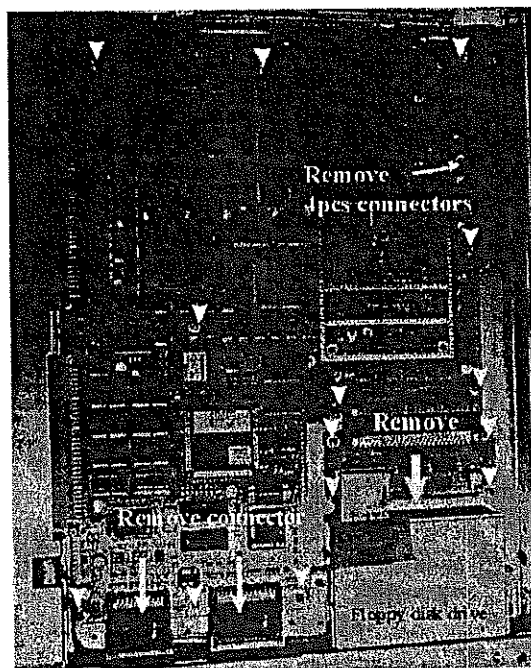

Figure 5-16 Location of Connectors and Screws
3. Remove 4pcs of RF connectors, 2pcs of flat cables and 13pcs screws, referring Figure 5-16.